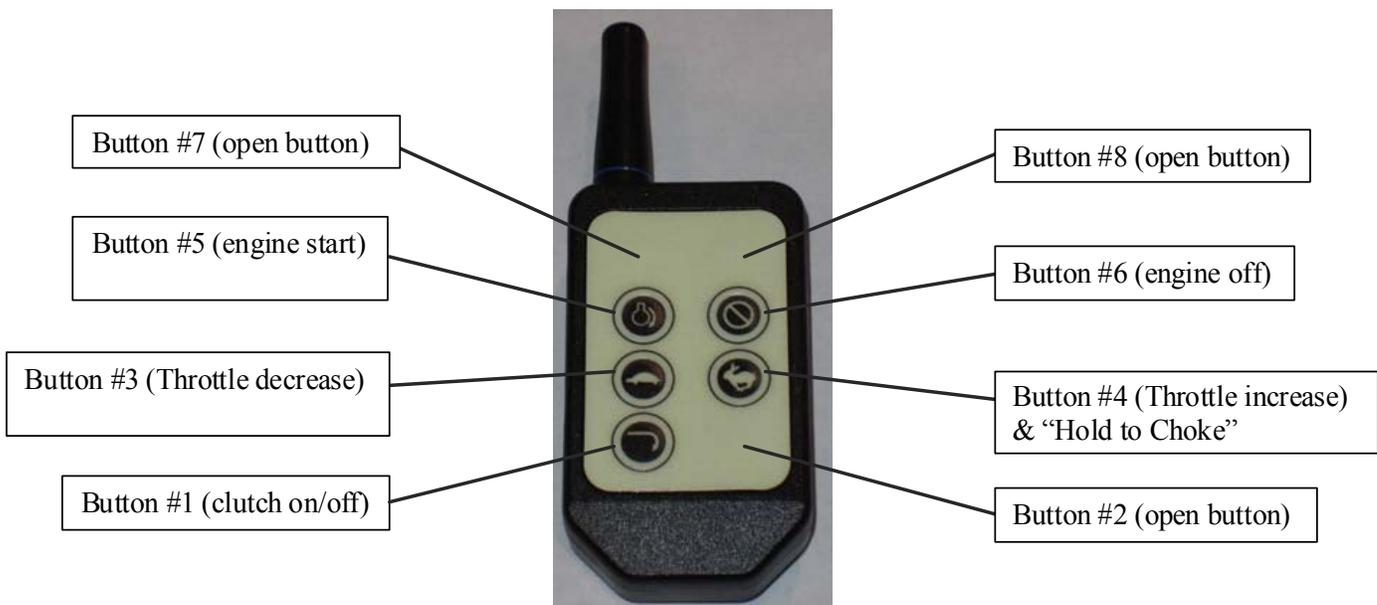

Fig. 1: Transmitter Front Button Assignments
The Swenson Wireless Controller comes factory programmed. That means matching the Base Unit to the Transmitter has been done by Swenson Spreader. This gives a matched (1 of 16 million combinations @ 418MHz) interface between the Transmitter and Base Unit. See Figures 1 & 2 for Transmitter button assignments. On the 8 button Swenson Spreader Transmitter, all (8) buttons are used when programming. When programming is completed, only (5) buttons are functional (Buttons #1, #3, #4, #5, & #6) (see Fig. 1).
4. On the front side of the Transmitter press all (8) buttons (see Fig. 1). There is no certain order to press the buttons. Firmly press each button, separately. Perform this step before the 15-17 seconds are up (before "blue" LED stops blinking). The Transmitter is now programmed and has created its own 1 in 16 million address. Once the "blue" LED stops blinking, this step is completed.